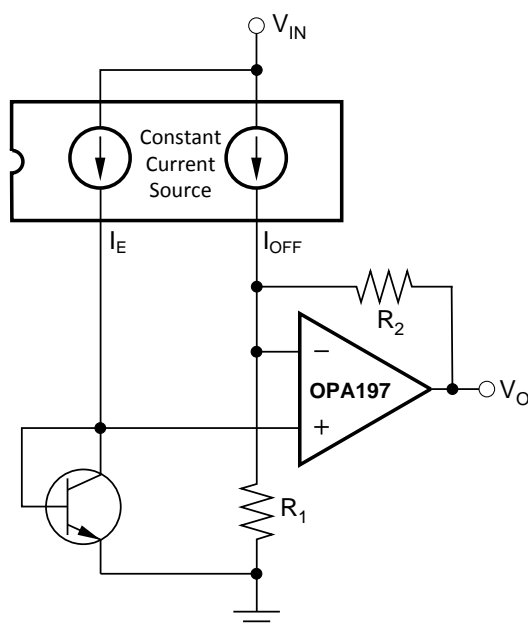
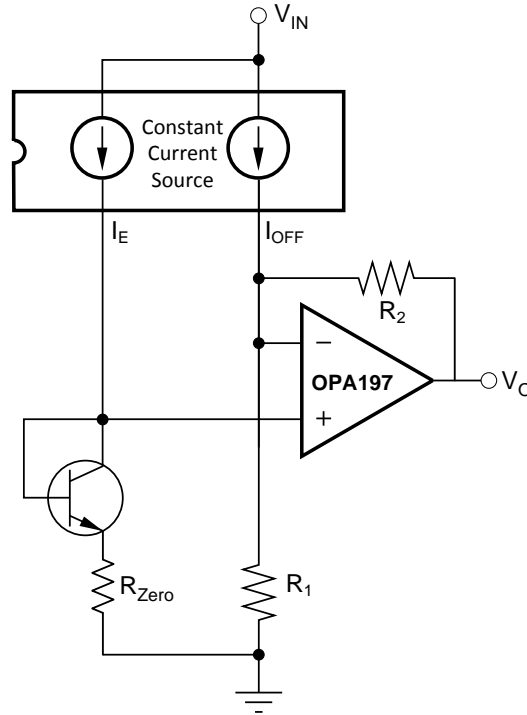
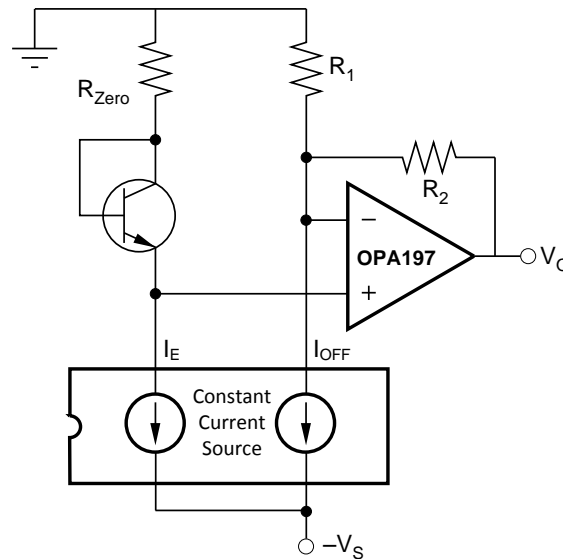
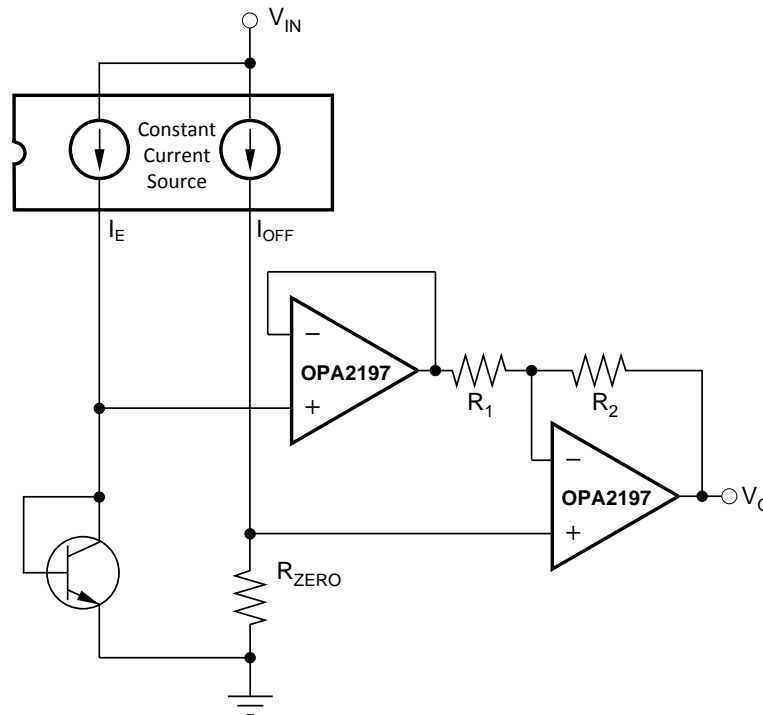

Figure 4. Simple Diode-Based Temperature Measurement Circuit
Figure 5. Temperature Measurement Circuit With Independent Gain and Offset Adjustment
Figure 6. Positive Temperature Measurement Circuit with Negative Supply
Figure 7. Positive Transfer Function Temperature Measurement Circuit With Positive Supply
Figure 4 shows the simplest diode-based temperature measurement system. One of the current sources is used for diode excitation. The other current source is used for offsetting. One disadvantage of this circuit is that the span (GAIN) and zero (OFFSET) adjustments are interactive. You must either accept the initial errors or use an interactive adjustment technique. Another possible disadvantage is that the temperature to voltage are inversely proportional. In other words, a positive change in temperature results in a negative change in output voltage. If the output is to be processed in a digital system, neither of these limitations may be a disadvantage.
- V_{BE25} = Diode voltage at 25°C (V)
- V_1 = Output voltage of circuit at T_{MIN} (V),
- V_O = Output voltage of circuit (V),
- $\delta V_O / \delta T$ = Desired output voltage change for given temperature change (V/°C) (Note: Must be negative for the Figure 4 circuit.) (2)
- $\delta V_O / \delta T$ = Desired output voltage change for given temperature change (V/°C) (Note: Must be negative for the Figure 4 circuit.) (3)
If independent adjustment of offset and span is required consider the circuit shown in Figure 5. In this circuit, a third resistor, R_{ZERO} is added in series with the temperature-sensing diode. System zero (offset) can be adjusted with R_{ZERO} without affecting span (gain). To trim the circuit adjust span first. Either R_1 or R_2 (or both) can be used to adjust span. Similar to the circuit in Figure 4, this circuit has the disadvantage that the temperature to voltage conversion is also inverting.
The following relationships can be used to calculate nominal resistor values for the Figure 5 circuit.
For a noninverting temperature to voltage conversion, consider the circuit shown in Figure 6. This circuit is similar to the circuit in Figure 5, except that the amplifier is connected to the low side of the diode. With this connection, the temperature to voltage conversion is noninverting. As before, if adjustment is required, adjust span with R_1 or R_2 first, then adjust zero with R_{ZERO} . A disadvantage of this circuit is that it requires a negative power supply.
The following relationships can be used to calculate nominal resistor values for the Figure 6 circuit.
For a single-supply noninverting temperature to voltage conversion, consider the Figure 7 circuit. This circuit is similar to the circuit in Figure 5, except that the temperature-sensing diode is connected to the inverting input of the amplifier and the offsetting network is connected to the noninverting input. To prevent sensor loading, a second amplifier is connected as a buffer between the temp sensor and the amplifier. If adjustment is required, adjust span with R_1 or R_2 first, then adjust zero with R_{ZERO} .
The following relationships can be used to calculate nominal resistor values for the Figure 7 circuit.
For differential temperature measurement, use the circuit shown in Figure 5. In this circuit, the differential output between two temperature-sensing diodes is amplified by a two-op-amp instrumentation amplifier (IA). The IA is formed from the two op amps in a dual OPA1013 and resistors R_1 , R_2 , R_3 , R_4 , and R_{SPAN} . R_{SPAN} sets the gain of the IA. For good common-mode rejection, R_1 , R_2 , R_3 , and R_4 must be matched. If 1% of resistors are used, CMR will be greater than 70 dB for gains over 50 V/V. Span and zero can be adjusted in any order in this circuit.